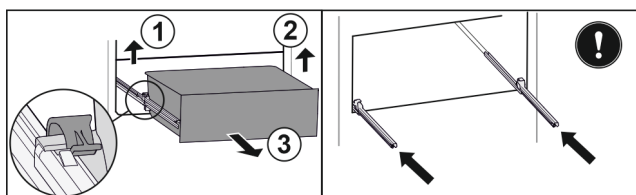

Fig. 92
- ▶ Lift left clamp and simultaneously pull drawer forwards on the left. Fig. 92 (1)
- ▶ Lift right clamp and simultaneously pull drawer forwards on the right. Fig. 92 (2)
- ▶ Remove drawer to the front. Fig. 92 (3)